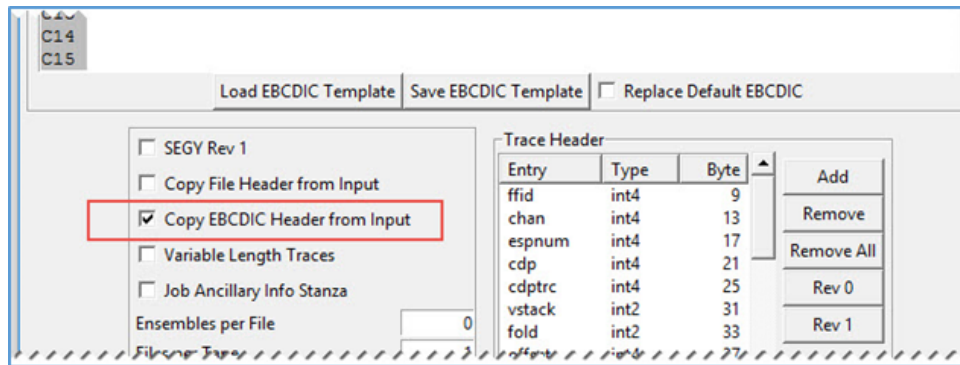

Figure 5-2 Copy EBCDIC Header from input
2. If required, edit or replace the Textural File Header (EBCDIC) for the output SEGYP:use copy from the input when the datain file is SEGYP. Check the box next to **Copy EBCDIC Header from Input** on the SEGYP Output option panel (Figure 5-2 below).